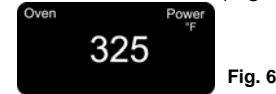

Fig. 6
- Press the oven button one (1) time to select the "Bake" feature or two (2) times for "Convection/Fan Baking".
- Press the "Increase/Decrease" button to change the temperature to the desired temperature for the roast. (Fig. 6)